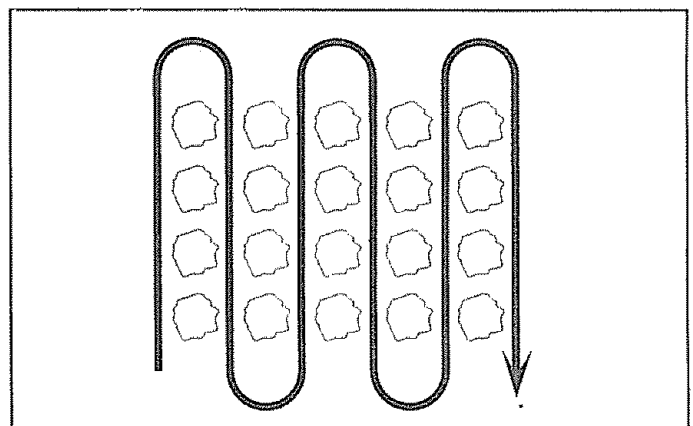

FIG. 10
- Cultivate up and down the rows at a speed which will allow tines to uproot weeds and leave the ground in rough condition, promoting no further growth of weeds and grass (See Fig. 10)